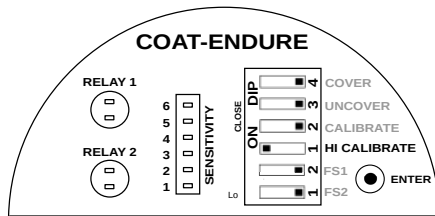

Figure 13: High Calibration Switch Position
- To start with the calibration, set the HI CALIBRATE switch to CLOSE (Opposite of OPEN for DIP switch) position as shown in Figure13 and wait until Green LED becomes stable.